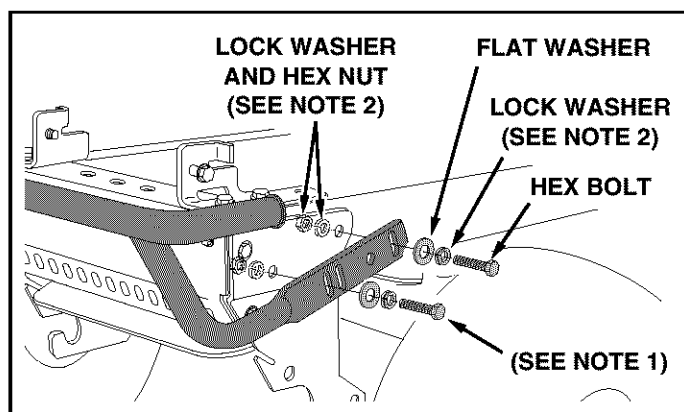

FIGURE 5
- Fasten bumper to frame using four 3/8" x 1-1/2" hex bolts, lock washers and flat washers. Do not tighten yet. See figure 5.
- Push bumper down for maximum clearance, then tilt hood forward. If hood remains stable when tilted forward, tighten the hex nuts that fasten the bumper to the frame. See figure 5.